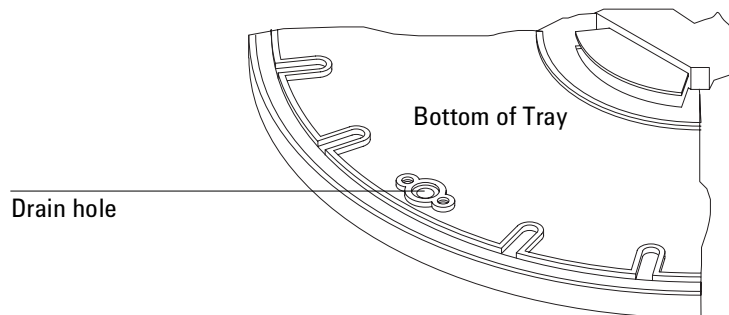

Figure 1. Access to screws to remove tray arm
1. Remove the two screws and clamps that hold the tray arm onto the rods of the tray base using a No. 1 point Pozidriv. Access these screws through the drain hole in the bottom of the tray base (see Figure 1).